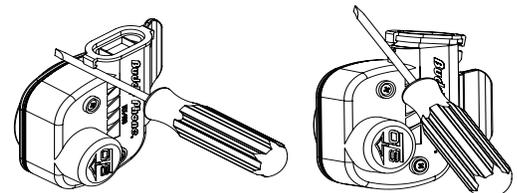

Fig. 2
1. Using the shaft of a small screwdriver (not the tip or point), pry back the battery plug until the latch releases on one side (Fig. 2).